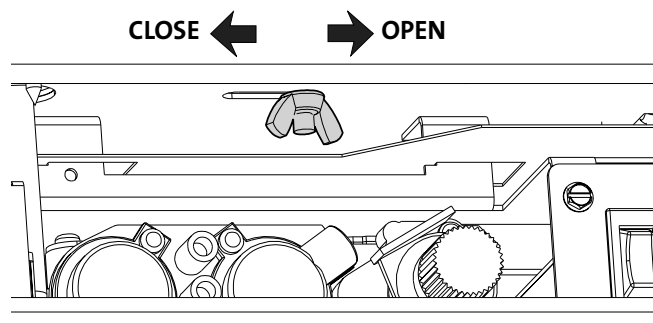

Figure 19. Air Shutter location.
1. Loosen the air shutter stem wing nut located under the firebox. See fig. 19.